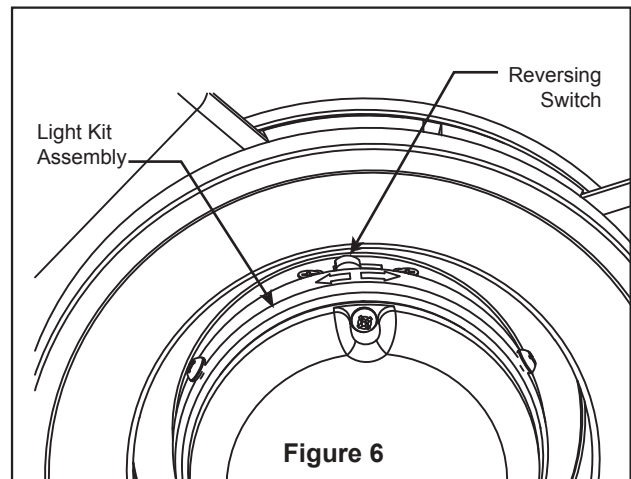

Figure 6
- 6.** Securely attach 9-pin connector from motor assembly to wiring harness socket within switch housing assembly. Assemble the switch housing assembly to the light plate assembly using the previously removed in Step 2. (Figure 6)
6. If airflow is desired in the opposite direction, turn the fan off and wait for the blades to stop turning. Remove the glass or steel cap then slide the reverse switch of on the light kit assembly to the opposite position and turn fan on again. Assemble the glass or steel cap to the light plate assembly by twisting in a clockwise direction. (Figure 6)